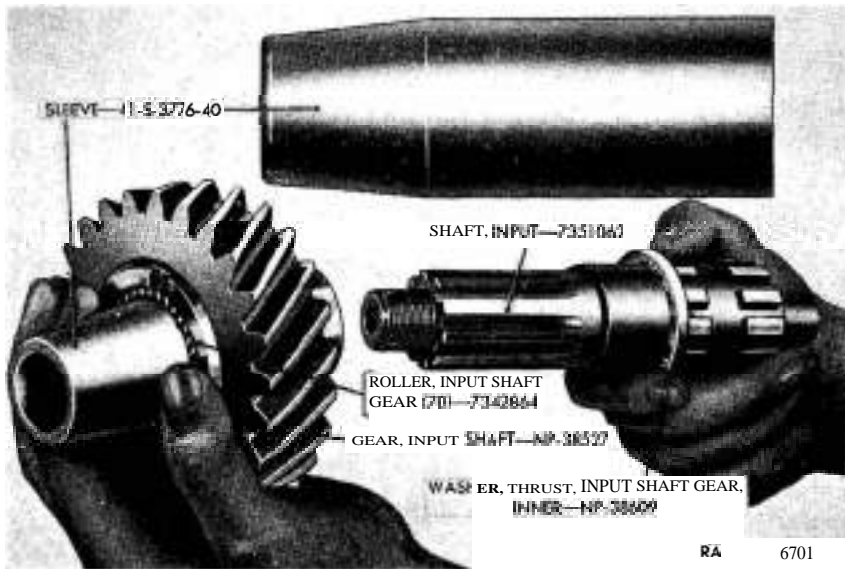

Figure 140. Installing input shaft gear and rollers.
- (1) Place input shaft gear (AW) on a clean surface, plain side up, and position sleeve 41-S-3776-40 (fig. 140), tapered end up, in gear.
- (2) Fill space between gear and sleeve 41-S-3776-40 (fig. 140) with general purpose grease (GAA). Install 35 input shaft gear rollers (AX), input shaft gear roller spacer (AY), and the other 35 input shaft gear rollers (AZ). A total of 70 rollers are required.
- (3) Position input shaft gear inner thrust washer (BC) on input shaft (BD) and insert shaft in sleeve 41-S-3776-40 (fig. 140). Hold rollers from coming out of gear and push input shaft into position. This will remove sleeve from rollers. Remove sleeve from shaft. Place input shaft